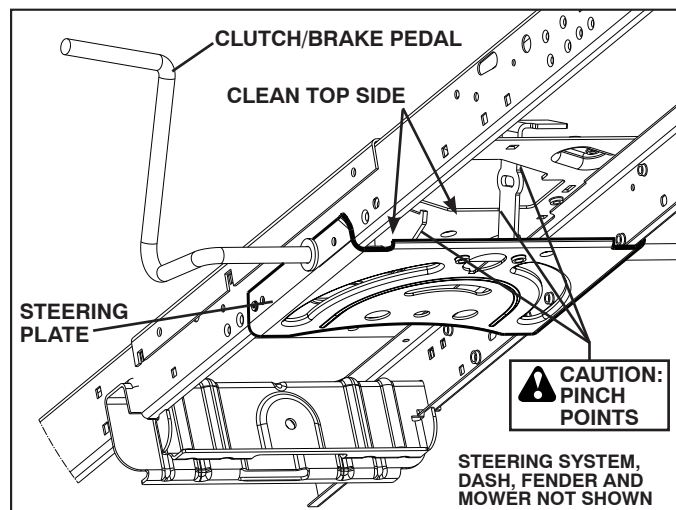

Fig. 18
**CAUTION:** Avoid all pinch points and movable parts (See Fig. 18)